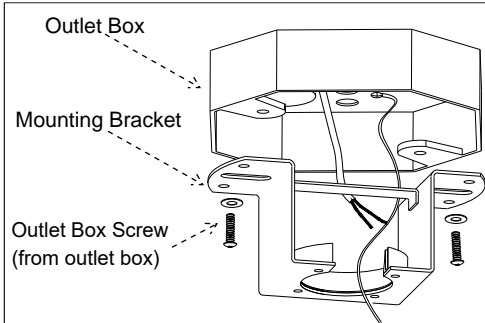

Fig. 6
Step 1. As shown in Fig. 6, use the outlet box screws from the outlet box or the ones provided in the accessory pack to secure the mounting bracket to the outlet box.